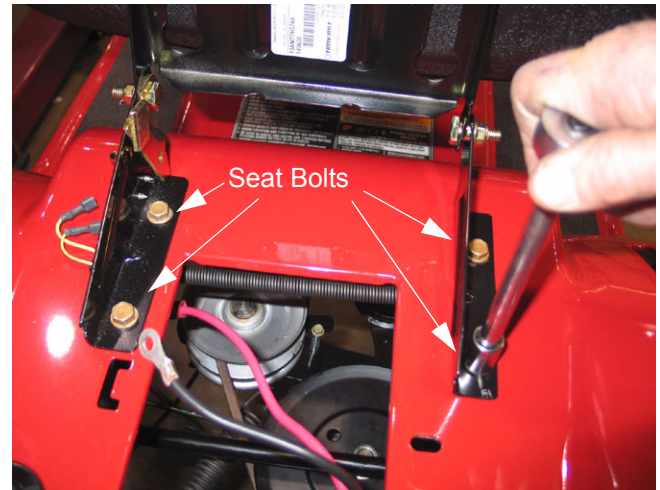

Figure 21
- 6.5. Using a 1/2" socket remove the four bolts securing the seat bracket to the frame. See Figure 21.